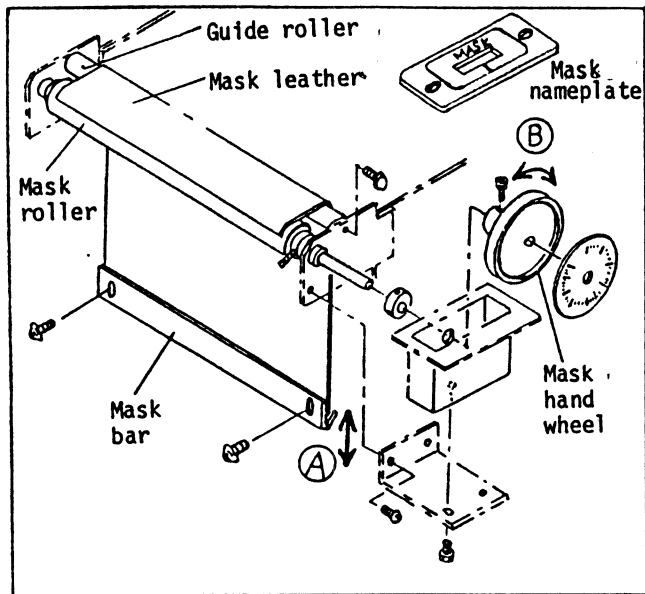

Fig.17
- (1) The mask angle can be adjusted by using the long hole of the mask bar. (Fig.17 (A))
- (2) To adjust the mask position, make an exposure with the mask in desired position and read the mask position.
- 2) Loosen the mask hand wheel set screw. While holding the mask roller by hand, turn the mask hand wheel and lock it with set screw. (Fig.17 (B))